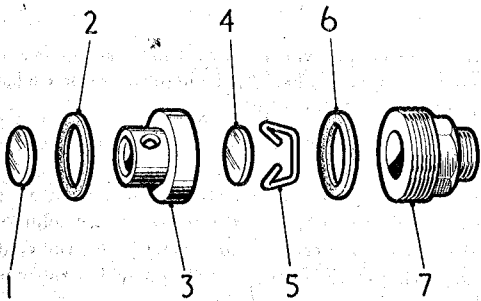

Fig. 9. The valve assembly, L and HP single pumps
13. Assemble the brass valve disc (4) (Fig. 9) to the outlet valve cage, (3) making sure that the smooth face of the disc faces the valve seat, retain it in position with the circlip (5) which must be located in the groove in the valve cage. The valve must rattle freely when the valve cage is shaken.
14. Drop the other valve disc (1) (Fig. 9) smooth face downwards onto the inlet valve seat in the body of the pump, insert the thin fibre washer (2), drop the valve cage (3) in position, insert the medium fibre washer (6), then screw in the outlet union (7), and tighten with a $\frac{3}{8}$ -in. Whitworth ring or box spanner. Fit the inlet union.